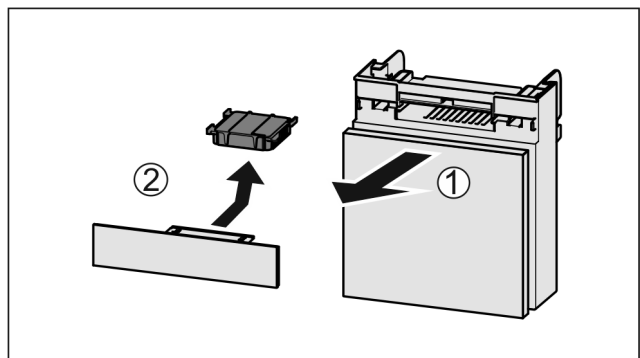

Fig. 71
- ▶ Pull out the compartment Fig. 71 (1).
- ▶ Remove the carbon filter Fig. 71 (2).